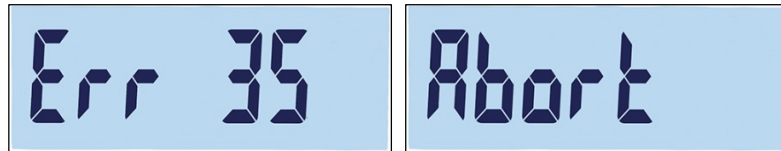

Figure 3-17: Linearity Calibration Error and Abort Messages
- If the scale is not stable after 30 seconds, it will time out and display an error code "Error 35" (Figure 3-17, left). This message will display for 2 seconds, and then the terminal will return to the last operation. Either reload the weight, or press  to cancel the process. If calibration is cancelled, "Abort" (Figure 3-17, right) will display briefly, calibration will end, and the F1.3.3 screen will reappear.
- To abort the process without saving the previous parameters, press the power button  during the calibration. "Abort" (Figure 3-17, right) will appear briefly. Calibration is suspended, the former parameters aren't saved, and the display returns to the F1.3.3 screen.